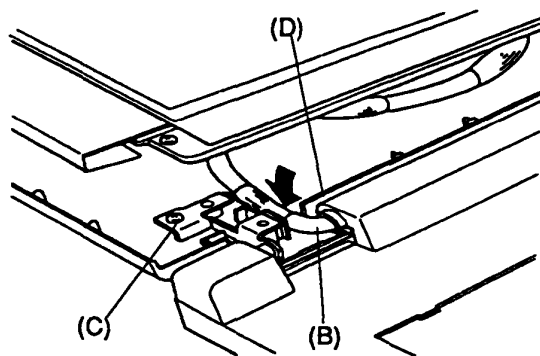

Figure 4-36 Routing the display cable
7. Make sure the display cable (B) is routed correctly between the hinge (C) and the display case (D) (Figure 4-36).